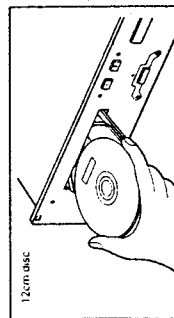
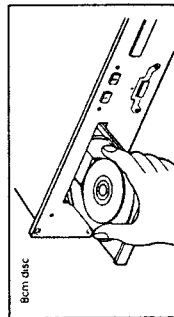

Figure 6
Figure 7
- ① Opening and closing the disc holder**
- ② Loading discs**
- When using 12cm discs, place the disc in the outer tray guides (Figure 6), and when using 8cm discs, place them securely in the inner guides (Figure 7).